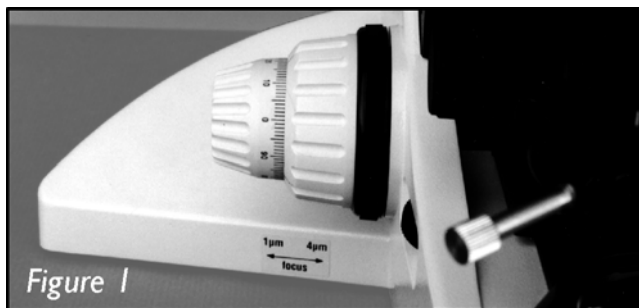

Figure 1
1. Push the fine focus fully to the left. Note the amount of the vernier scale showing on the left hand knob (figure 1). Fitting the H122LB is done with the fine focus in this 1 micron position.